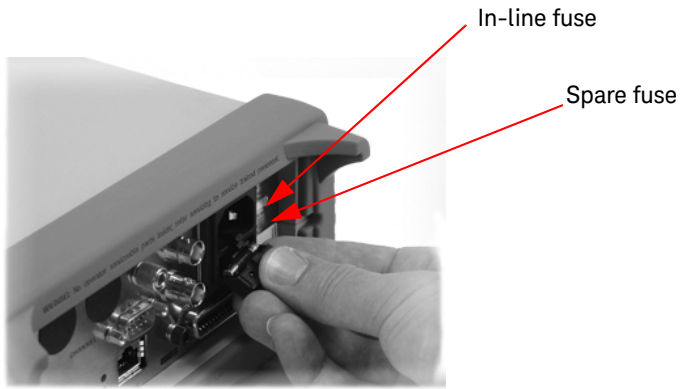

Figure 10-3 Replacing the fuse
- 1 Slide the fuse holder assembly from the rear panel as shown in Figure 10-3.
- 2 Install the correct fuse in the “In line” position as shown in Figure 10-3. (A spare fuse can be stored in the fuse holder assembly.)